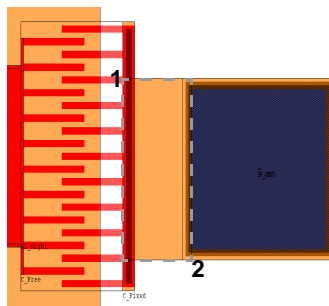

Figure 23: Attaching the first bonding pad
- ☑ Position the bonding pad slightly to the right of the right comb-drive (Figure 23).